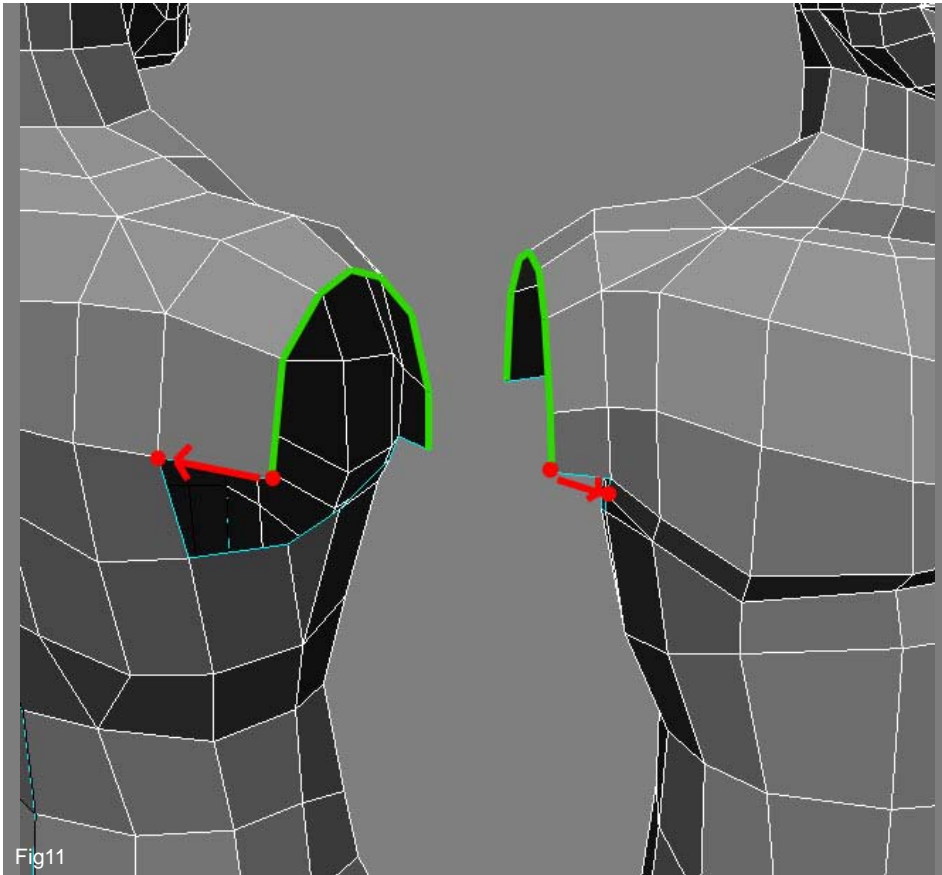

Fig11
11. Time to go on with the arms. Select the top seven edges marked in green, in Fig 11, and Duplicate/Extrude them, moving them outwards. Select the vertices marked in red, in Fig 11, and weld them to their neighbours (follow the red arrows in Fig 11 to understand this task).